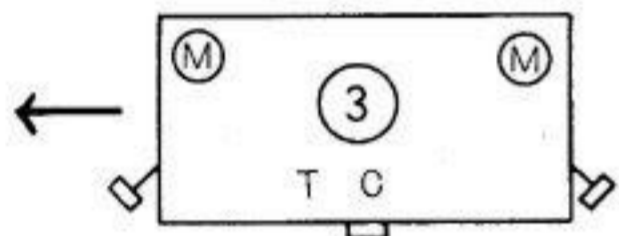
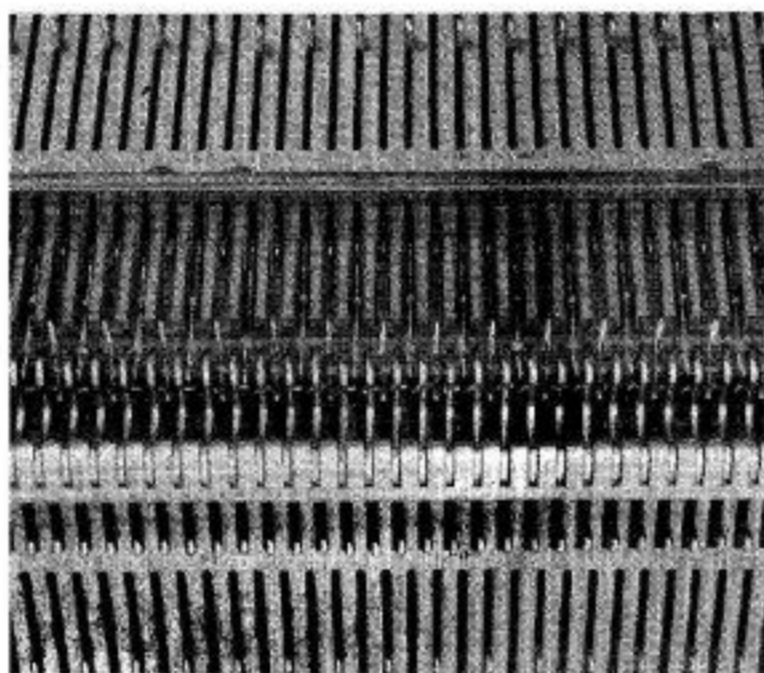
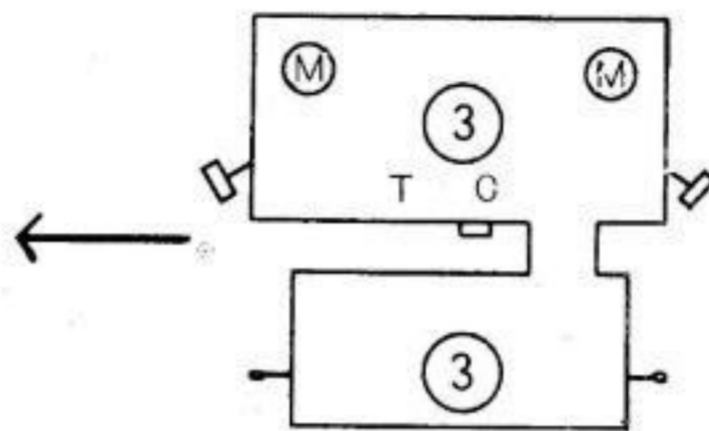
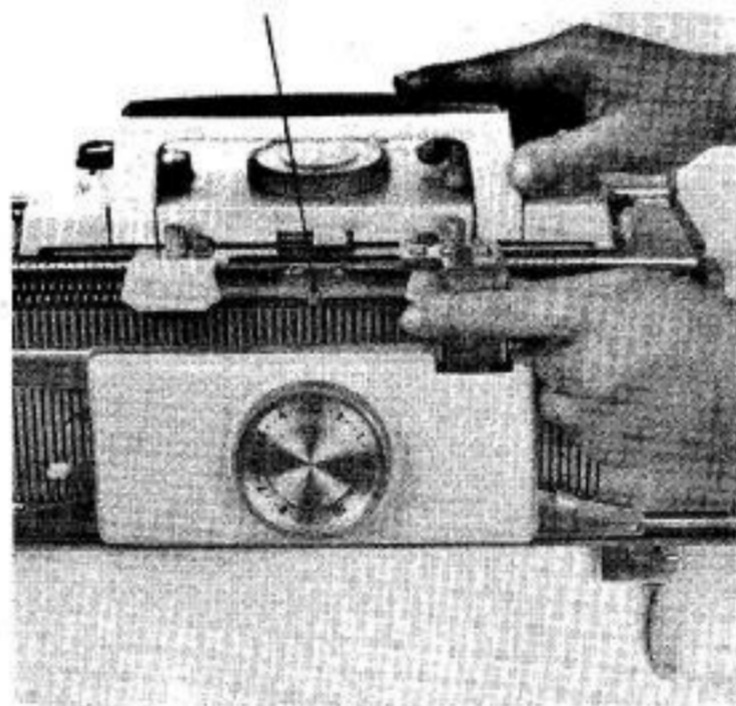

Fig. 35
Fig. 36
Fig. 49
Fig. 50
Making sure that all ribber needle latches are open, move machine carriage across to the left—see Fig. 35—and it will now be seen that the yarn has formed a zig zag mesh between the machine and ribber needles. (Figs. 36 & 37)
2. Set the controls as follows—see Fig. 49.
3. Couple the two carriages together as shown in Fig. 50. Making sure that all ribber needle latches are open, move both carriages, across to the left—see Fig. 49—and it will be seen that the yarn has formed a zig zag mesh between the machine and ribber needles. (Figs. 36 & 37)